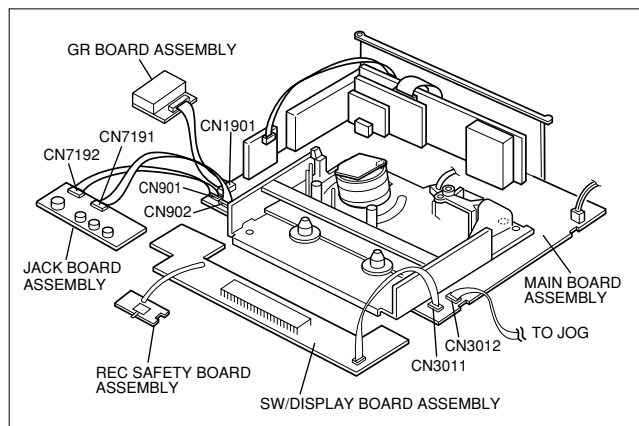

Fig. 1-4-3
- (9) Place the SW/Display board assembly, REC safety board assembly, JACK board assembly and GR board assembly on the front side and left side of the Mechanism and Main board assemblies which was removed at the step (7), then connect the flat wires into CN3011, CN1901, CN901 and CN902 of the Main board assembly. (Refer to Fig. 1-4-3.)
1.4.3 Cassette loading and ejection methods in the "SERVICE POSITION"(See Fig. 1-4-3).
- (1) Insert a cassette halfway in the Cassette holder assembly.
- (2) Set the switch on the REC safety board assembly to ON (by pressing the switch).
- (3) As soon as the cassette starts to be loaded, set the switch on the REC safety board assembly to OFF (by releasing the switch).
- (4) Now the desired operation (recording, playback, fast forward, rewind, etc.) is possible in this status (the status shown in Fig.1-4-3).
want to switch the mode, turn the set to the normal position (the status shown in Fig.1-4-3).